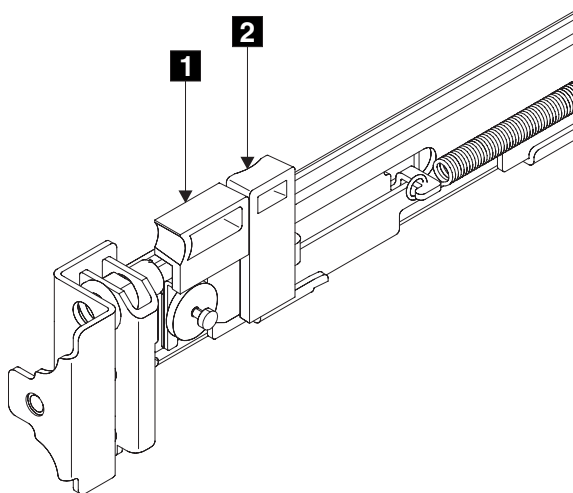

Figure 43. Retracting the latch lock carrier
2. Put your index finger against the side of the latch-lever, **1** in Figure 43, and put your thumb against the front of the latch-lock **2**.